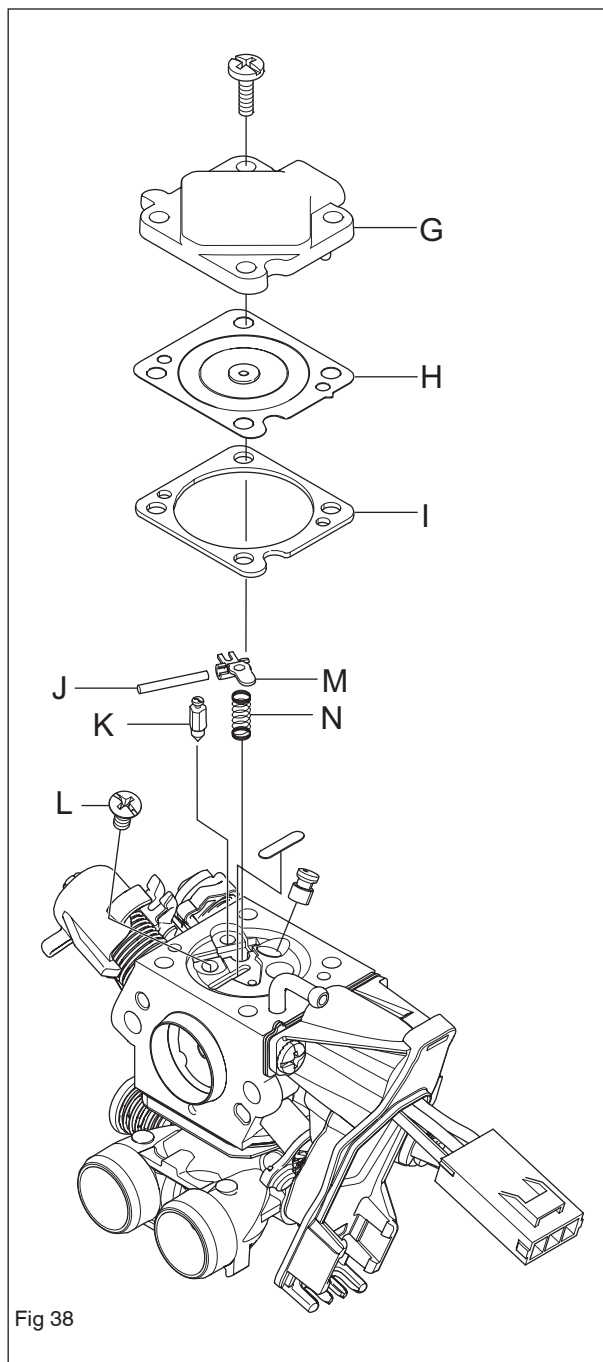

Fig 38
7. Dismantle the metering cover G and carefully remove the control diaphragm H and gasket I. See figure 38.
8. Unscrew screw L and remove needle valve K with lever arm M, shaft J and spring N. See figure 38.
3. That the needle valve K and its lever arm M are not worn. See figure 38.